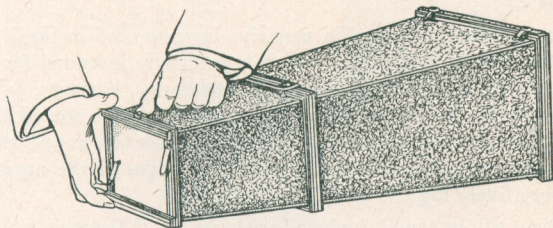

Fig. 6.
5. The small frame containing the two sheets of glass (retained by spring fingers) is the negative holder, and is to be fastened to small end of cone by means of the hooks, as shown in Fig. 6.